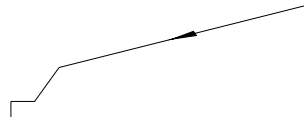

Fig. 4-8b G33 execution path 2
- ① Z movement is the same with the above; X executes the thread run-out in advance according to the different position of H; X thread run-out speed is based on G00 speed with the raising speed, constant speed and reducing speed; the bigger X distance I is, the better the result is. The speed should be more than 40mm when the conditions are permitted.
- ② When H_d0=1, and Z moves to the reducing speed point C, X executes the thread run-out in advance, which is not limited by K; it finally moves to E.
- ③ H_d0=0 and Z move the distance which leaves the distance K(K point) to the end point D, X executes the thread run-out in advance. When K is big, the system executes the thread run-out in the middle of BC section, The path is as Fig. 4-8b; when K is small, the system executes the thread run-out in the middle of CD section.